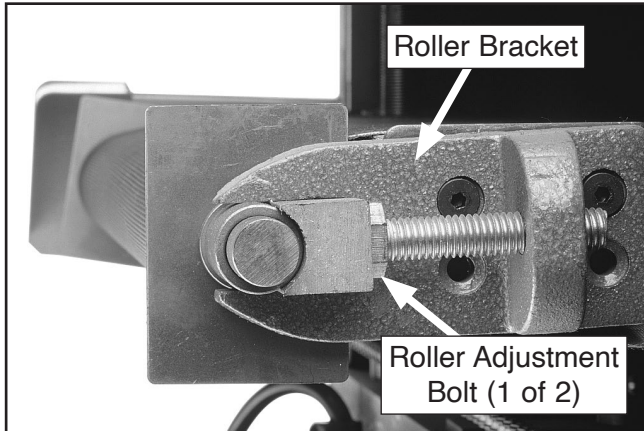

Figure 40. Location of conveyor roller adjustment bolts.
- If belt slips during operation, rotate both adjustment bolts equally (see **Figure 40**) *clockwise* to increase belt tension.